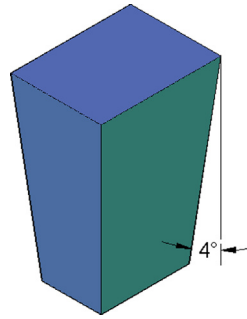

FIGURE 24.19
Step 2. Taper the block on all four sides to 4° , as seen in Figure 24.19.